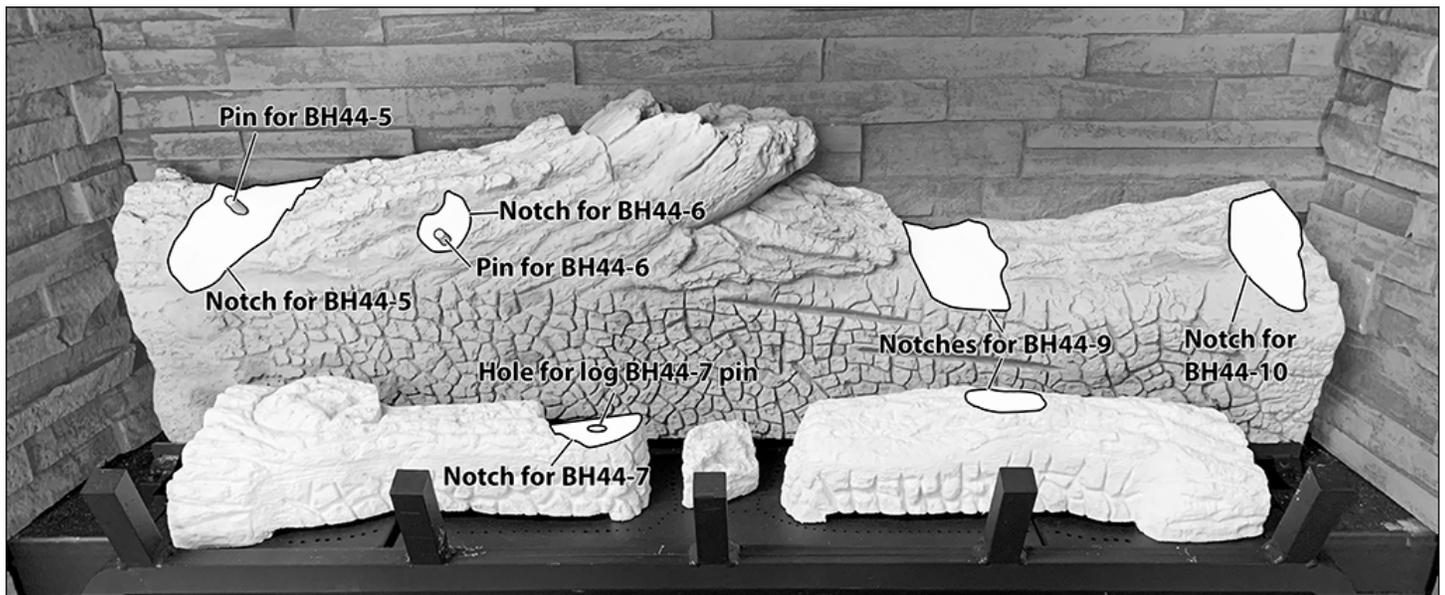
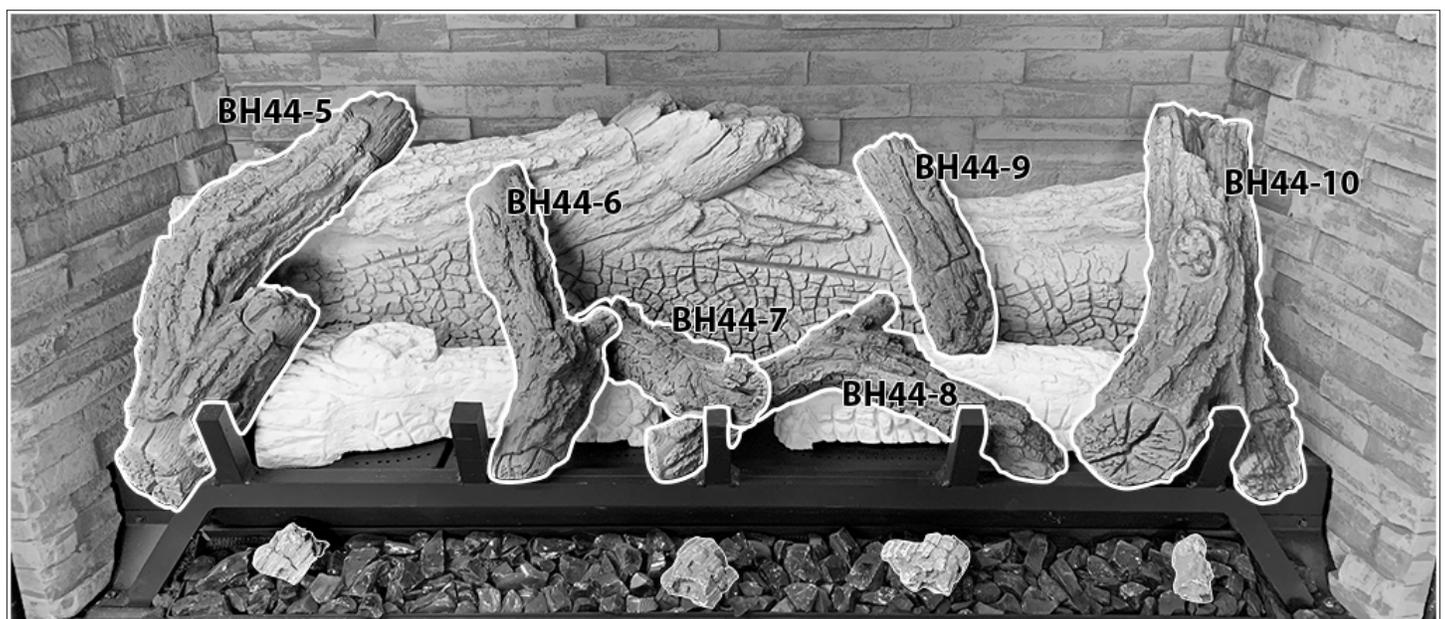

Figure 8.8, Base Log Notches
Figure 8.9, Completed Install
Use Figures 8.8 and 8.9 together for the following instructions for proper log placement.
3. Align the hole in the bottom of log BH44-5 with the pin on the left hand side of log BH44-1 and set into position, as shown in Figure 8.9.
4. Align the hole in the bottom of log BH44-6 with the pin in BH44-1 (Figure 8.8). Place as shown in Figure 8.9.
5. Place log BH44-8 on log BH44-4, as shown in Figure 8.9.
6. Align the pin in the bottom of log BH44-7 with the hole in the notch in log BH44-2 (Figure 8.8), and set on to log BH44-8, as shown in Figure 8.9.
7. Align log BH44-9 with the notches on log BH44-1 (Figure 8.8) and log BH44-4, as shown in Figure 8.9.
8. Align log BH44-10 with the notch on log BH44-1 (Figure 8.8), and place on log BH44-4, as shown in Figure 8.9.
10. Place the (4) charred pieces on top of the ember bed. We show one way to place the pieces, and you may place the pieces at your discretion.